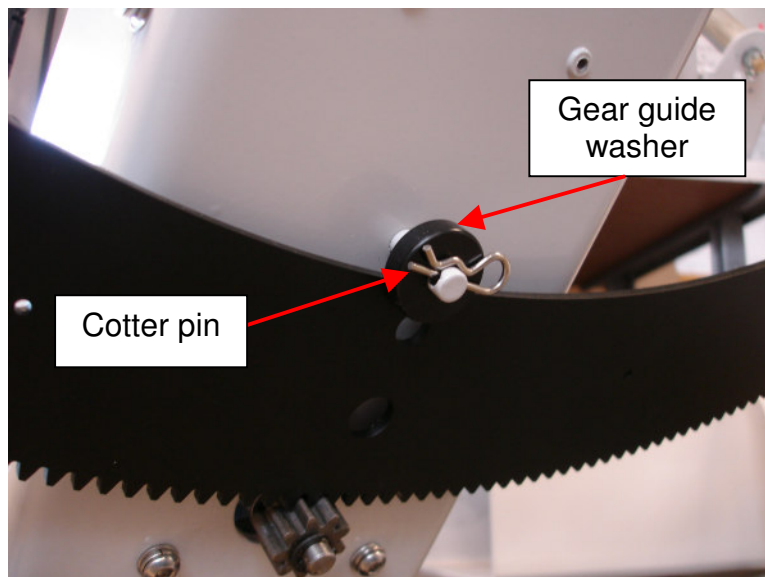

Figure 6
6. Install gear guide washer and cotter pin (from Mount Hardware Package) on frame clevis pin. See Figure 6.